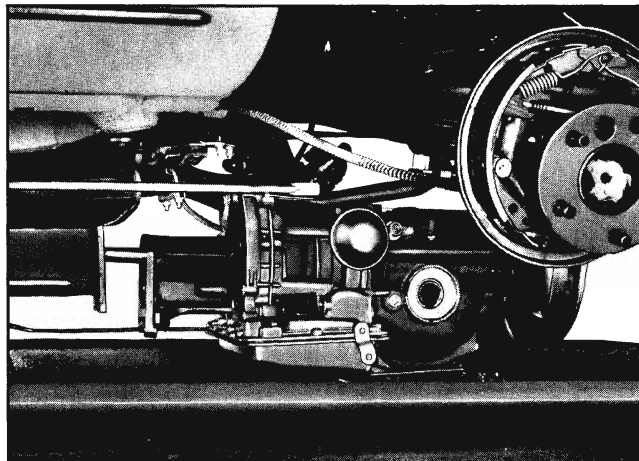

Fig. 4-25 Separating Trans-Axle from Torque Tube
- Separate trans-axle assembly from torque tube (Fig. 4-25).